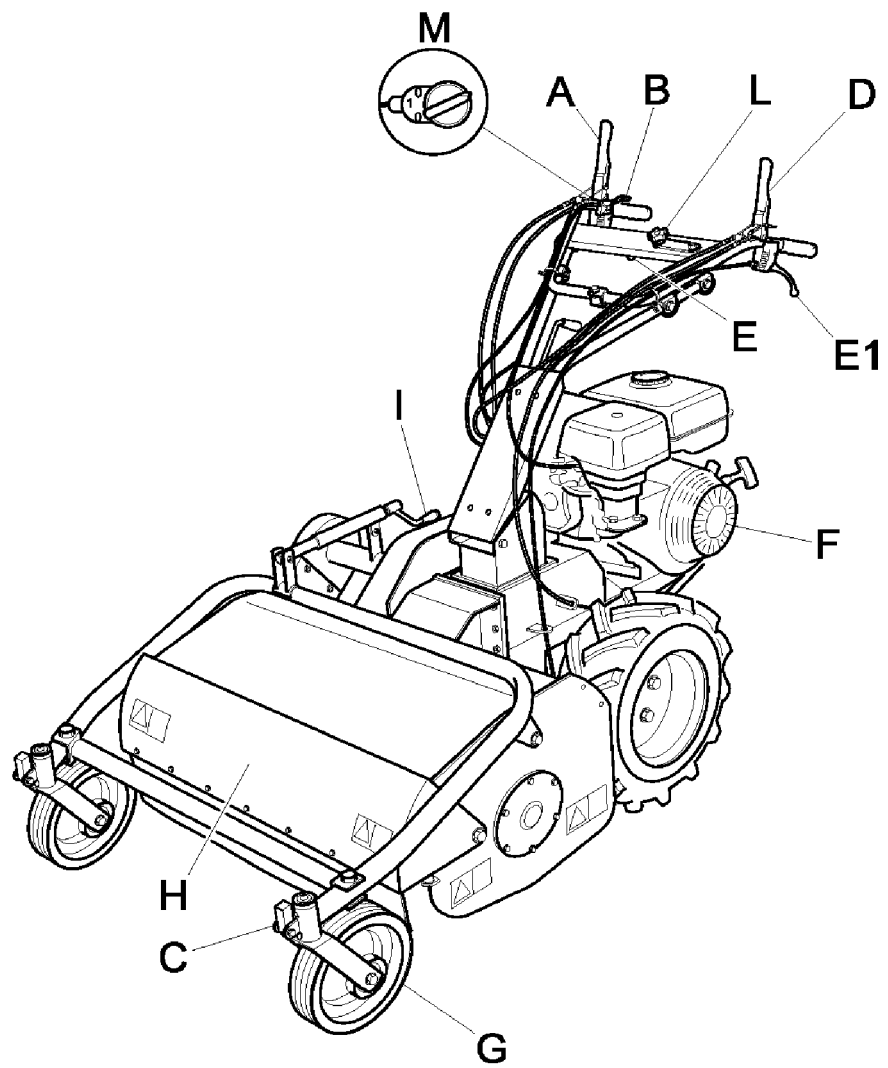

Figure 1
The front guard (Fig. 1 Ref. H) opens or closes automatically according to the amount of grass to be cut. Use of the machine with the guard left open is strictly prohibited. This may cause the outward projection of objects.
*Be sure to set the handle positions correctly (Fig. 2 Ref. N and O), making sure that the handles are correctly engaged; if they are not, engage the forward clutch lever momentarily (Fig. 1 Ref. A) so that the speed setting engages correctly.
- Before switching on the engine make sure that both engagement levers (forward clutch control lever - Fig. 1 Ref. A and flail clutch control lever - Fig. 1 Ref. D) are in the disengaged position (released); the service brake will be on automatically; then place the gear handle in neutral (see Fig. 2 Ref. N)
- The guard in front of the flails (Fig. 1 Ref. H) must always be closed while the machine is in use.